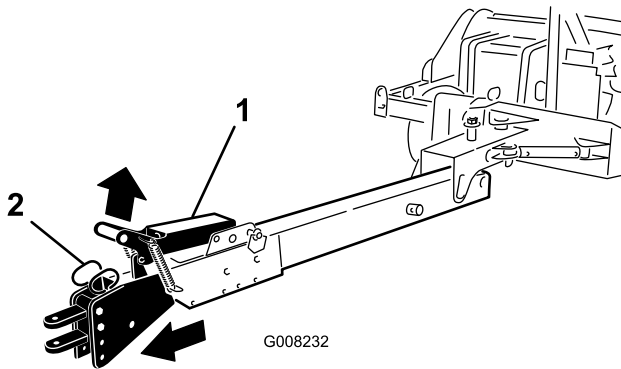

Figure 22
- Lift up on the latch handle (Figure 22).
- Slowly drive the vehicle forward until the hitch assembly locks into place (Figure 22).
7. To retract the tow hitch, lift up on the latch handle and slowly back up the vehicle until the hitch assembly locks into place (Figure 22).